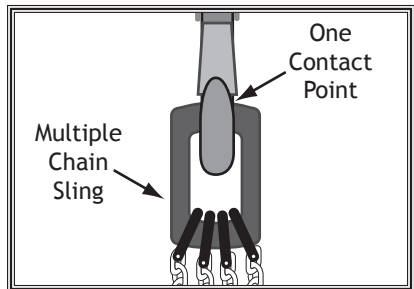

Figure 5. Proper method of mounting multiple chains.
- DO NOT attach multiple chains or harnesses directly to the hook. Only one point of contact should be used on the hook and shackle to lessen the chance of the load falling and to allow proper load alignment. Use a multiple chain sling similar to the one shown in Figure 5.